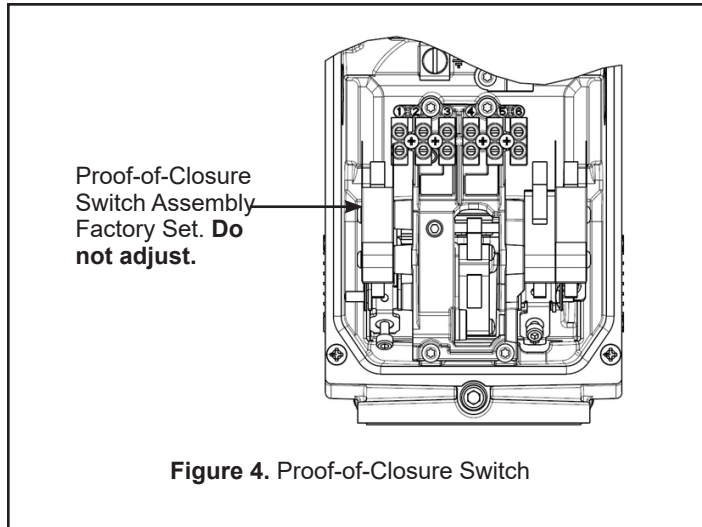

Figure 4. Proof-of-Closure Switch
5. Using stranded 12-18 AWG wire, connect wiring from an external highfire switch (not supplied) to the 3-position terminal strip (position 5 and 6, see wiring diagram). The switch must be rated at 250 VA minimum. Torque terminal strip screws to 0.5 N-m (4.5 in-lbs) (Figure 4).
Proof-of-Closure Switch (Refer to Figure 4)